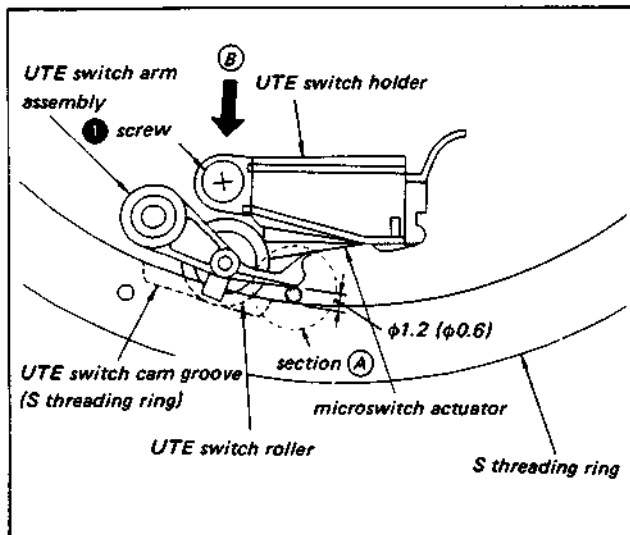

Fig. 3-27. UTE switch position adjustment
Turn the S threading ring manually until the UTE switch roller of the UTE switch arm assembly drops into the UTE switch arm groove. Confirm that when a $\phi 1.2$ pin is inserted into section (A) in Fig. 3-27, the switch comes ON, and that when a $\phi 0.6$ pin is inserted the switch does not come ON.